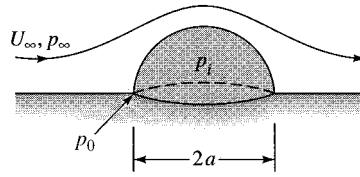

Fig. P8.99
**8.99** Consider air flowing past a hemisphere resting on a flat surface, as in Fig. P8.99. If the internal pressure is  $p_i$ , find an expression for the pressure force on the hemisphere. By analogy with Prob. 8.49 at what point  $A$  on the hemisphere should a hole be cut so that the pressure force will be zero according to inviscid theory?